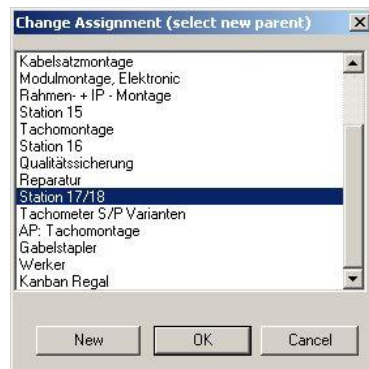

Figure 77: Selecting the New Structure in the Dialog
- 2) After you have clicked on *Change assignment* (Please refer to the Figure 71), select the new structure level in the open dialog (in the screenshot it is the station 17/18). Confirm the selection with OK. Please refer to the Figure 77.